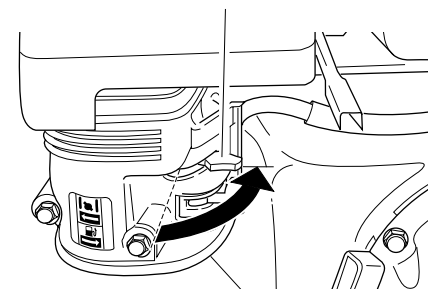

Figure 21 - Choke Lever Opened (Model RGH7500IE Shown)
5. As engine warms up, slowly move choke lever fully to the right (see Figure 21). This opens the choke. On Model RGH11000IE, the choke will automatically open.